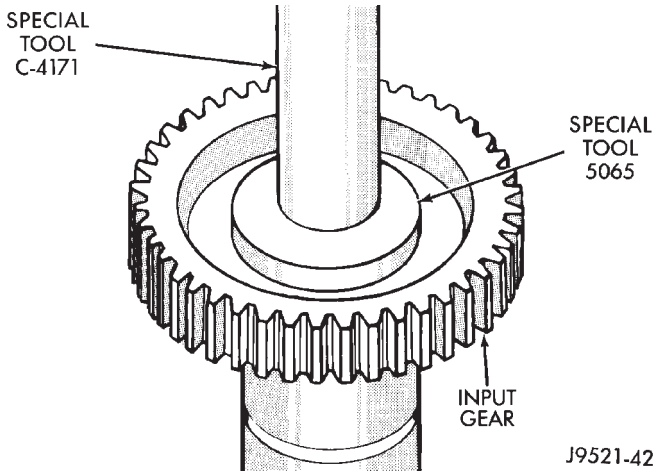

Fig. 43 Input Gear Pilot Bearing Installation
(10) Install new pilot bearing with Tool Handle C-4171 and Installer 5065 (Fig. 43).